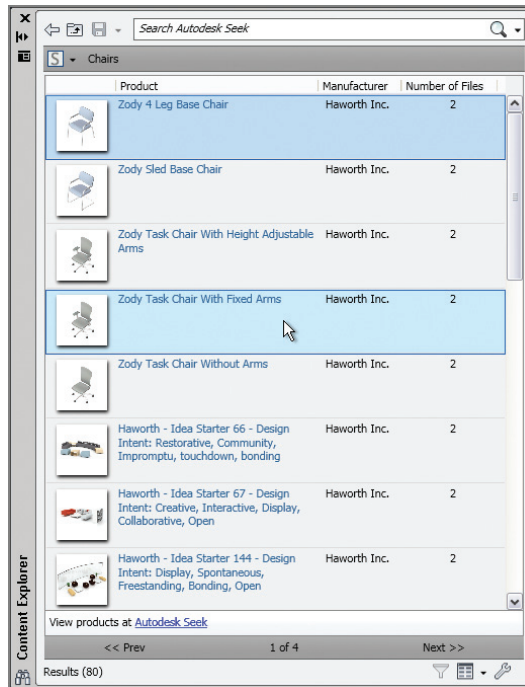

FIGURE 9.17 Searching for chairs
6. You can click on any of the *breadcrumbs* to go to specific folders in the local path. Alternatively, you can access online content. Open the Content Sources menu, and select Autodesk Seek. Double-click the Chairs folder, and select this item in the list: Zody Task Chair With Fixed Arms (see Figure 9.17).